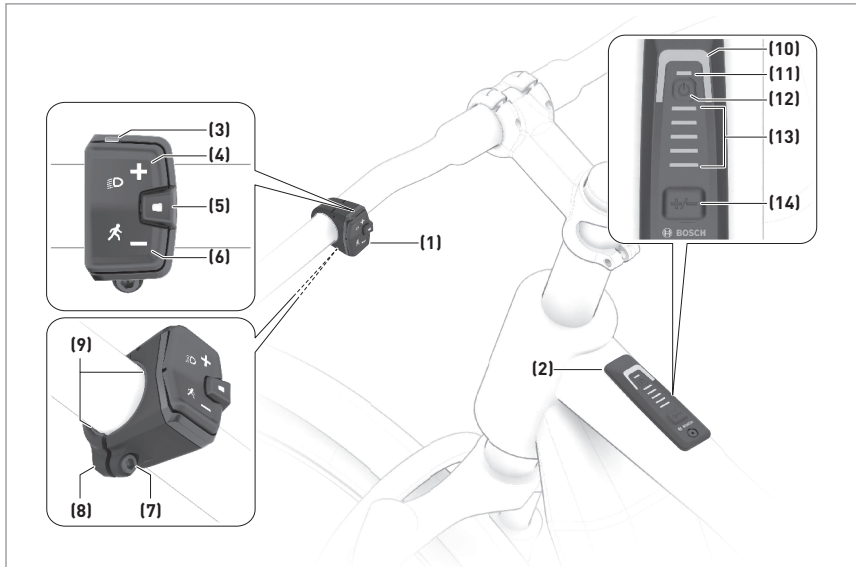

Figure 4 - System Controller/Mini Remote Product Features
Firmly press the power button located on the top of the system controller located on your top tube to turn the system ON and OFF (Fig. 4, #12).
The ebike system always starts with the assist mode OFF for drive units with a maximum speed of more than 20 mph. This is indicated when the Assist Mode LED indicator is off or unlit (Fig. 4, #10). This Bosch ebike is equipped with four assist modes to optimize the intended use of the ebike. There are many assist modes offered by Bosch, and Salsa has chosen the four we have found most useful for this bicycle. The Assist Mode LED Indicator will display as follows for each assist level:
- To adjust the assist mode using the top tube system controller, press the 'Mode' button (Fig. 4, #14) to cycle through the assist modes in increasing assist order.
- To adjust the assist mode using the mini handlebar remote, press the 'Increase Assist Level' or 'Decrease Assist Level' buttons on the handlebar remote (Fig. 4, #4 or #6).
This mode provides electric assist while walking your ebike. To start walk assistance, press and hold the assist mode button for more than 1 second and keep it pressed (Fig. 4, #6). The battery charge indicator will go out, and a white light moving in the direction of travel will indicate that walk assistance is ready (Fig. 4, #13). To activate walk assistance, one of the following actions must occur within the next 10 seconds: